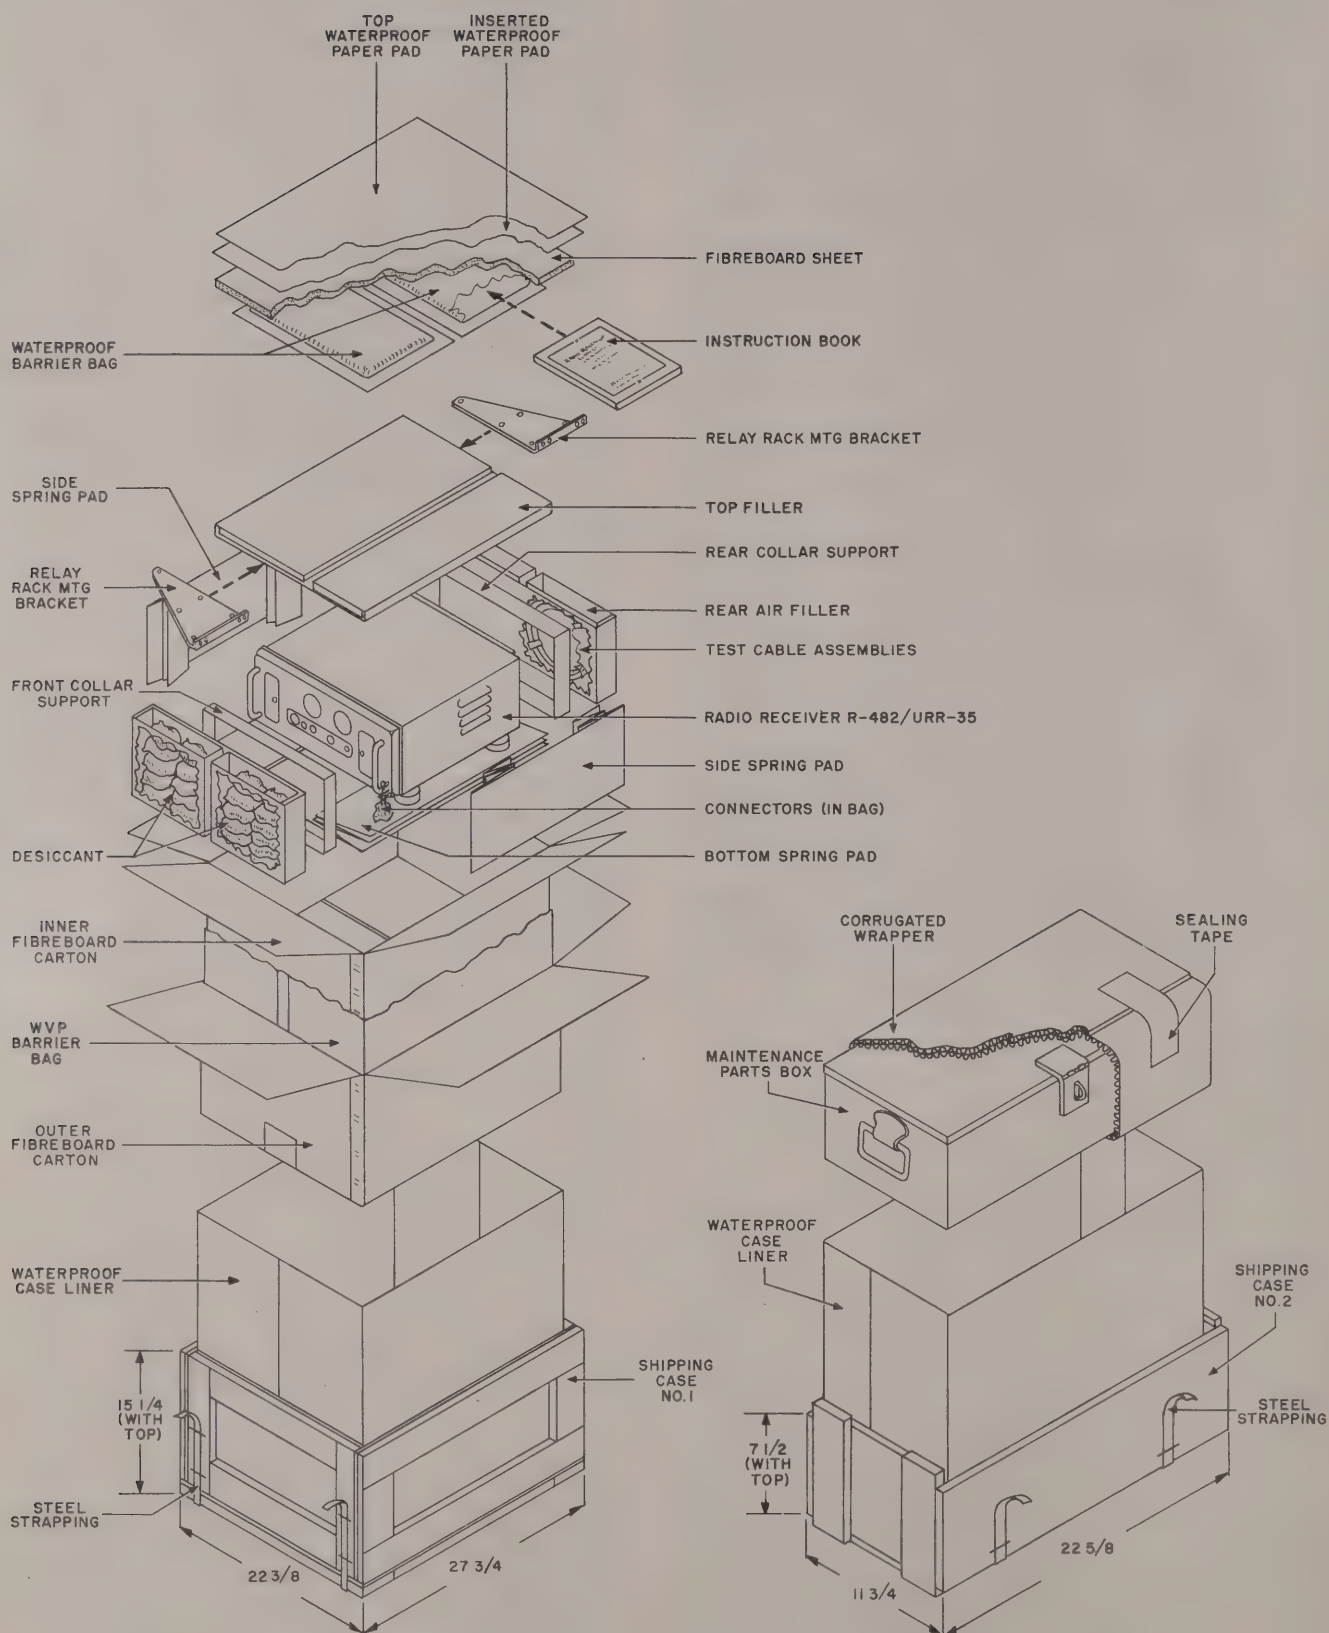

Figure 3-1. Packaging of Radio Receiving Set AN/URR-35
a. GENERAL.—Each complete Radio Receiving Set AN/URR-35 is shipped in two wooden cases. Case No. 1 contains the receiver and its accessories, while the maintenance parts kit is packed in case No. 2. The accessories which are packed in case No. 1 with the receiver are the two test cable assemblies, the set of four connector plugs, the pair of relay-rack mounting brackets and two instruction books; see figure 1-1. The method of packing the equipment is shown in figure 3-1; refer to that illustration while unpacking in accordance with the instructions outlined in the following subparagraphs.
- (1) Set up the shipping case as indicated by the markings on the outside and cut the steel strapping.
- (2) Using a nail puller, remove the top of the case.